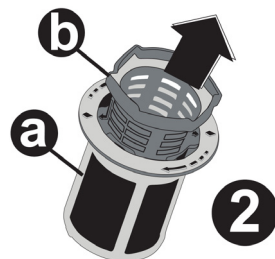

Fig. 14
- Remove the coarse filter from the micro-filter (Fig. 14).